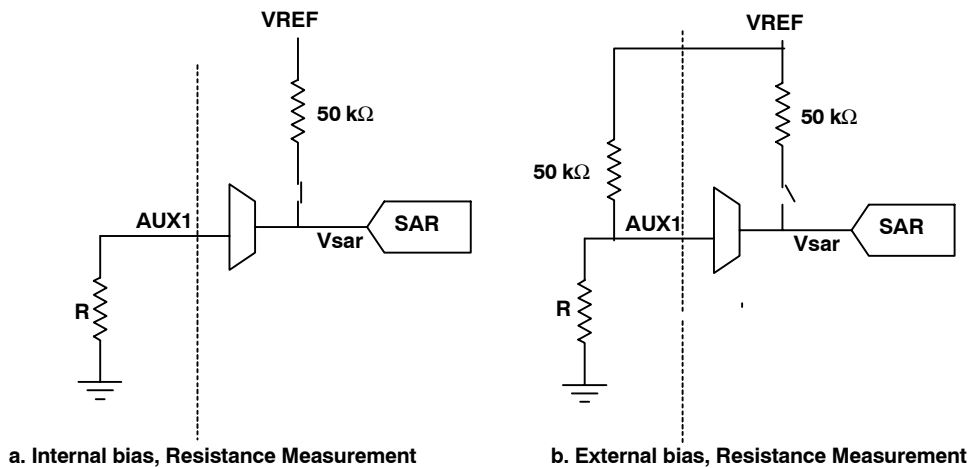

Figure 34. Connection Diagram for Resistance Measurement
The TSC2101 provides feature to measure resistance using auxiliary inputs. It has two modes of operation: (1) External bias resistance measurement (2) Internal bias resistance measurement. Internal bias resistance measurement mode does not need an external bias resistance of 50 kΩ, but provides less accuracy because of on chip resistance variation, which is typically ±20%. Figure 34 shows connection diagram for resistance measurement mode on AUX1.